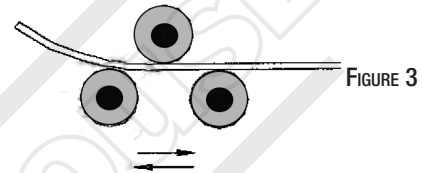

FIGURE 3
4. To get to the desired arc or diameter, gradually lower the top roller on each pass. (Figure 3) After each pass the diameter value may be bigger than expected then continue to lower the top roller. If the opposite is the case then release the top roller up using the metric ruler as a guide.